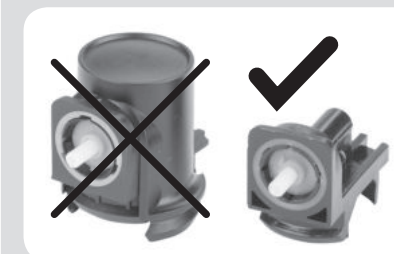

Fig. 11
Gas can connection adapter type	low (see fig.11)
- **For connection to the nail gun, the gas can must be fitted with a low connection adapter shown in fig. 11.**